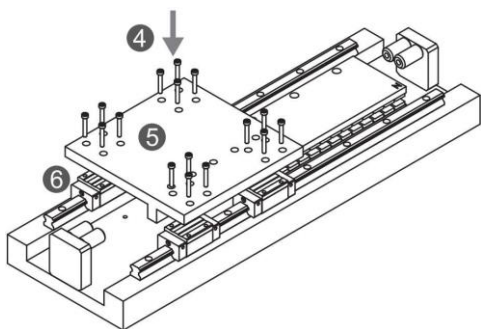

Figure 5.2-3 Forcer base installation
- ▶ Use screws ④ to install the forcer base ⑤ onto the linear sliding block ⑥. (refer to Figure5.2-3)